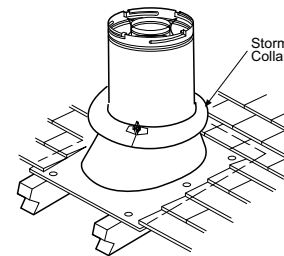

Figure 27
J. Install the storm collar - Install the storm collar, supplied with the flashing, over the vent/flashing joint. See **Figure 27**. Loosen the storm collar screw. Slide collar down until it meets the top of the flashing. Tighten the adjusting screw. Apply non-combustible caulking or mastic around the circumference of the joint to provide a water tight seal.
Analyze the vent routing and determine the types and quantities of sections required. 4 1/2" (114 mm), 10 1/2" (267 mm), 22 1/2" (572 mm), 34 1/2" (876 mm) and 46 1/2" (1181 mm) net section lengths are available. Plan the vent lengths so that a section joint does not occur within the space defined by ceiling joists, roof rafters or wall studs. Make allowances for elbows as indicated in **Figure 27 on page 12**.